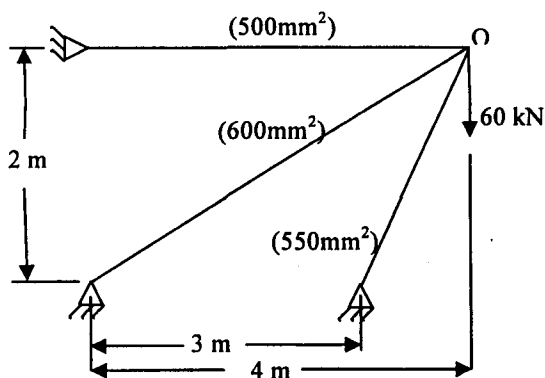

Fig. Q.6
Q.6) (a) Three pin-jointed bars meet at 'O' as shown in Fig. Q.6. A 60 kN load is acting downward at 'O'. Compute the joint displacements at 'O' and the member forces by the Displacement Method of analysis. Given : $E=250\text{kN/m}^2$. The cross-sectional areas of the members are indicated in parenthesis.